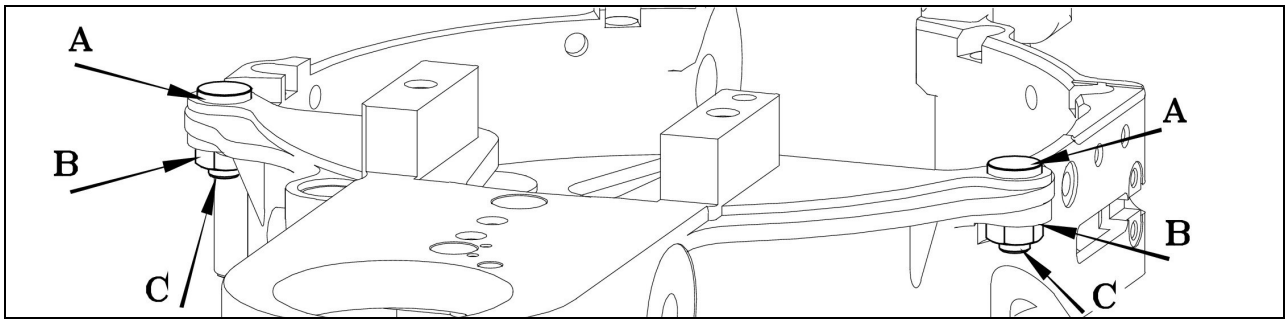

Fig 1
1. There are two bedplate buttons (A) as shown in Fig 1. Loosen nut (B) and turn screw (C) until the buttons are firmly seated against the bedplate.